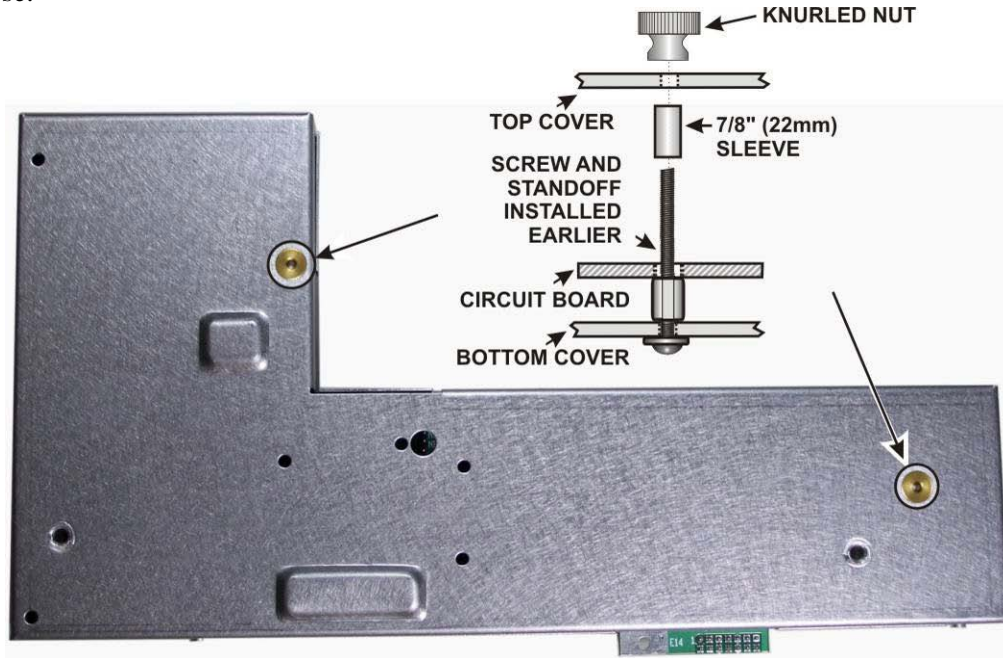

Figure 42. Installing the Shield Top.
□ Place a 7/8" (22 mm) unthreaded sleeve over each of the long screws so they rest against the top of the circuit board (see Figure 42), then place the top cover over the assembly and adjust its position so the edge of the top fits inside the bottom and rests against the KRX3A main board on all sides. The long screws will pass through holes in the top cover. Secure the top with knurled nuts tightened only enough to hold the cover in place so it isn't loose.